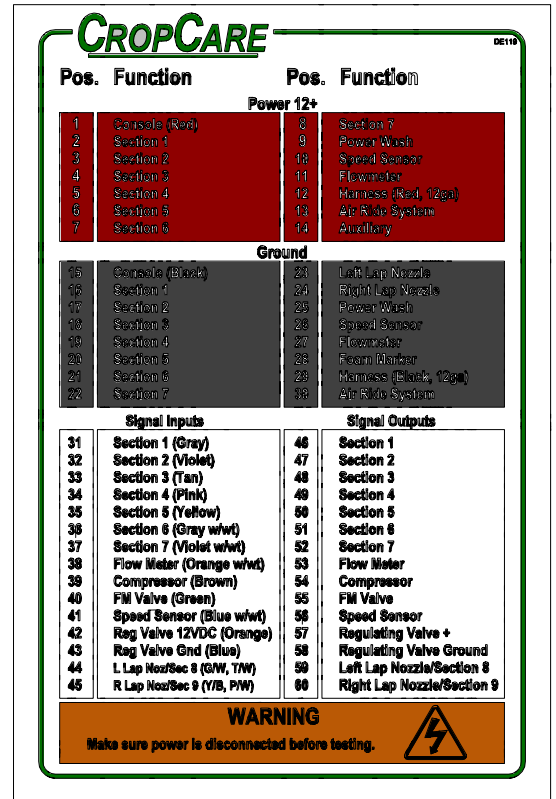

Figure 2
- Install the lap nozzle solenoid wire harness ends into the proper terminals for connecting the lap nozzle, 12V+ and ground wires. See the decal on the inside of the junction box lid (Figure 2), or see the "Wiring" section in the sprayer's owner's manual.